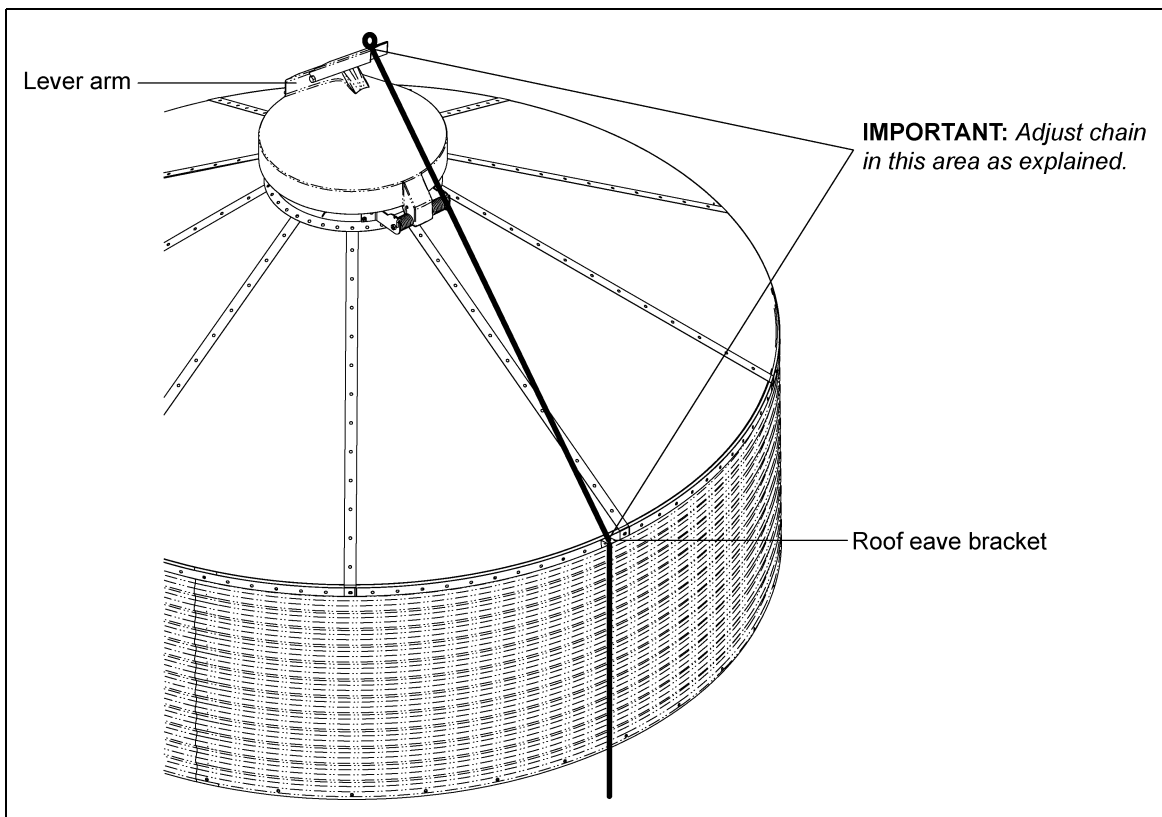
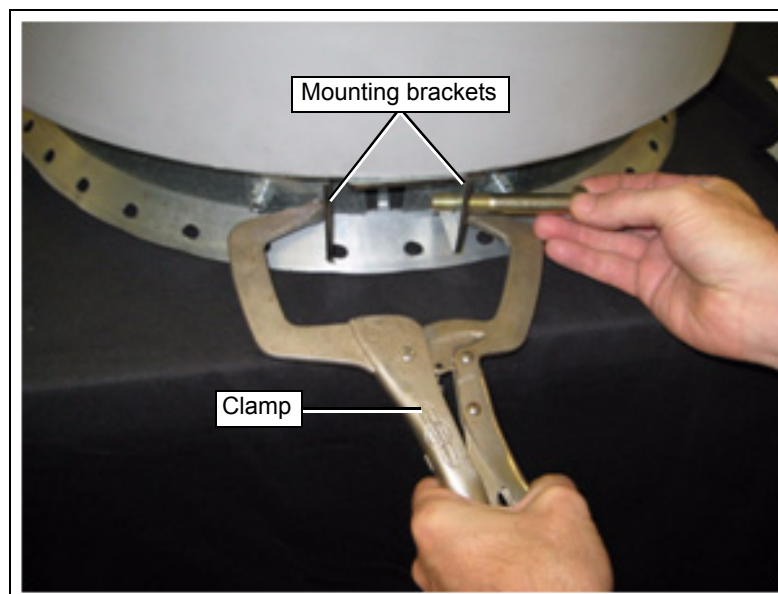
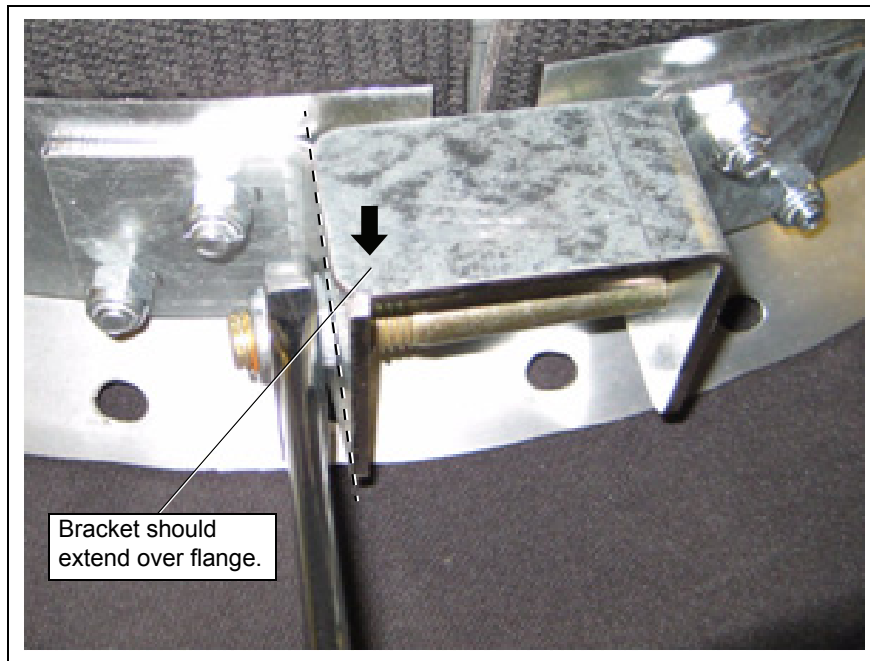

Figure 1
Figure 6 Mount Lid to Peak Ring
Figure 7 Tighten Bolts Until Flush with Bracket
NOTE: If there was no previous chain, roof eave bracket or chain holder bracket, a chain will need to be purchased and the brackets included will need to be attached to the side of the bin, vertically aligned with the lever arm. (See Figure 1.)
3. Place the new lid assembly over the existing peak ring collar and rotate lid assembly such that the lever arm and spring hinge line up with the roof eave bracket. (See Figure 1 on Page 1.) Use a clamp to pull the mounting brackets together. Slide the 3/8" carriage bolt supplied through the mounting bracket and loosely fasten with nut. (See Figure 6.) Remove clamp and then tighten the bolt with 9/16" ratchet, ensuring that the vertical flange tightens past the left edge of the top, horizontal flange. (See Figure 7 on Page 4.)